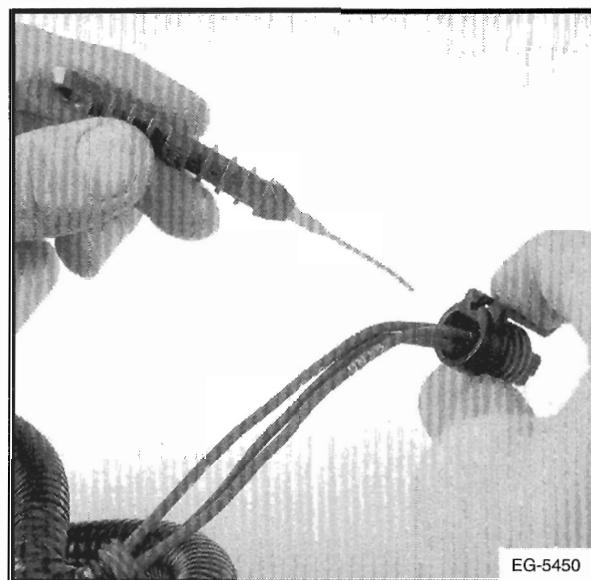

Figure 6-31. – Release Terminal Lock Tab
3. Insert the narrow blade tool into the rear of the connector body on the locking tab side of the wire terminal (Figure 6-31.).